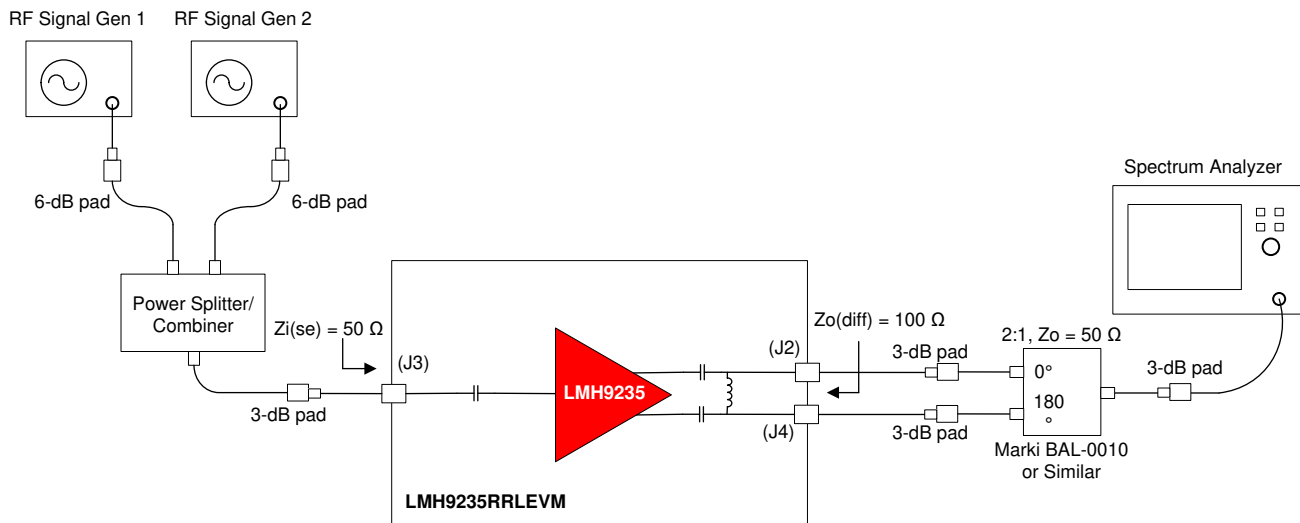

Figure 12. OIP3 Test Setup
1. As Figure 12 shows, combine two signal generator outputs using an in-phase power splitter and combiner. A 6-dB attenuator is recommended at the signal generator outputs to prevent the generators from talking to each other and resulting in signal generator IMD3 spurs.